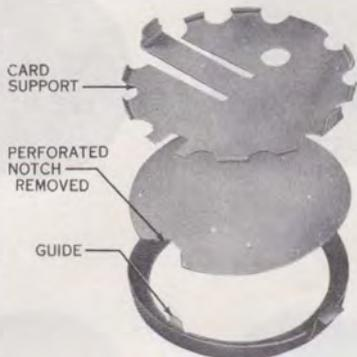

Fig. 7—Method of Placing Number Card in Holder
**4.02** To install number card in metal fingerwheel (Fig. 7):